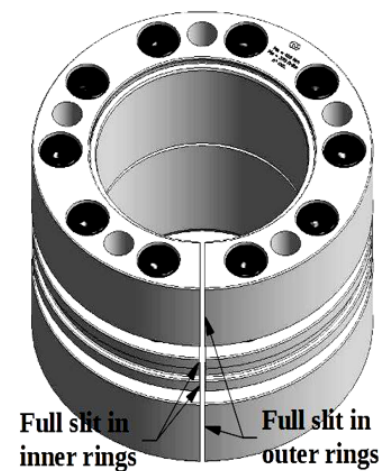

Fig. 3A Detail of slits alignment (full slit)
2. Check to ensure that slits of all locking rings are aligned. A light misalignment will be noticed in case staggered slits are machined in front and rear outer rings (see Figures 3a and 3b).